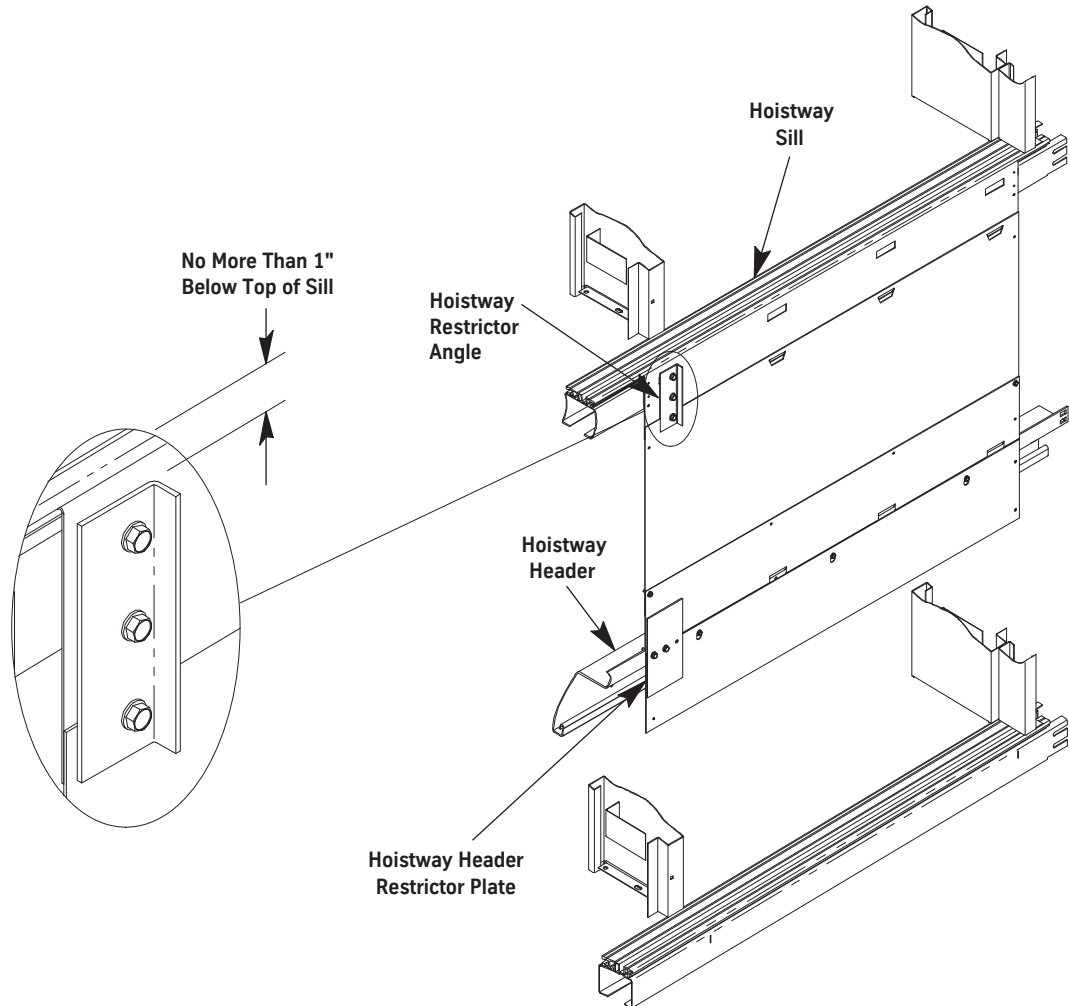

Figure 74 - Hoistway Restrictor Angle Positions
1. Mark the position of the hoistway restrictor angle. See Figure 74.